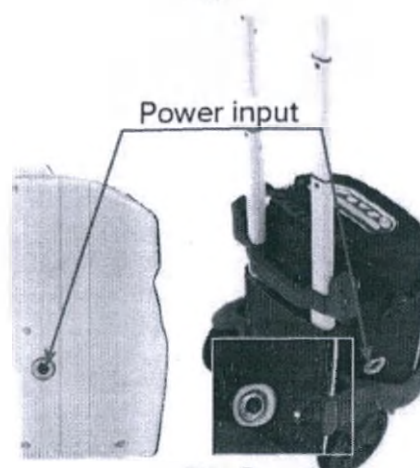

Fig. 3
- Connect the AC/DC power supply by plugging the round connector into the power input on the side of the concentrator (Fig. 3).